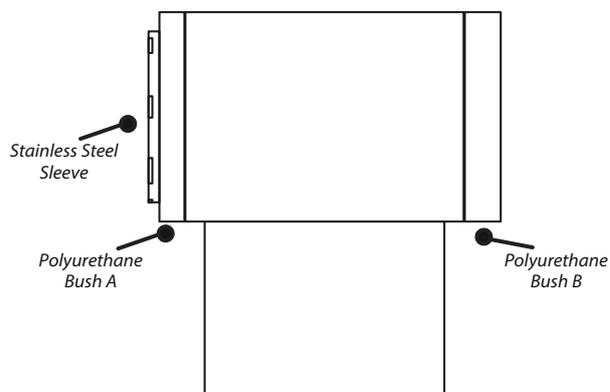

Figure 1
5. Apply some of the provided grease to bore and mounting faces of each bush. Fit the stainless steel sleeve into bush with machined sleeve face facing forwards on vehicle (flush against polyurethane B bush) as shown in Figure 1.